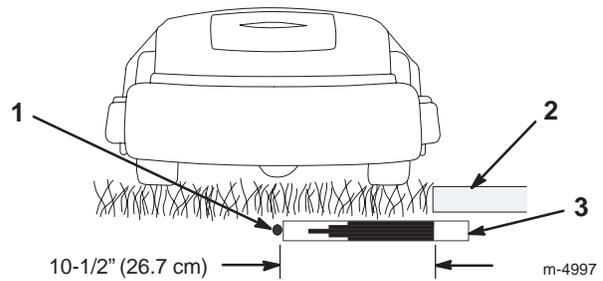

Figure 9
- Lay down the perimeter wire 10-1/2 inches (27 centimeters) from the edge of the lawn, where the edge is in a relatively flat area without obstacles (Fig. 9).